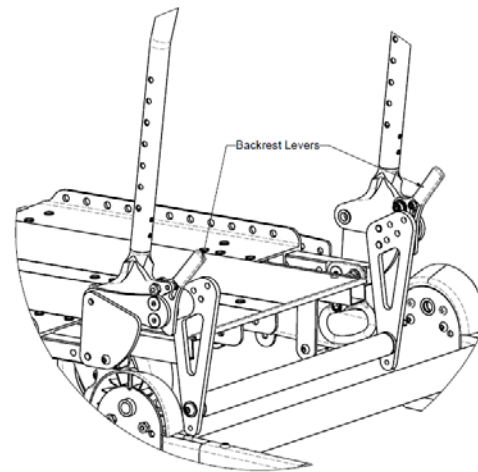

Figure 10.14: *Fold down backrest*
2. Disengage both latches (see Figure 10.14), by pushing each lever towards the front of the chair. The latches do not have to be disengaged simultaneously.